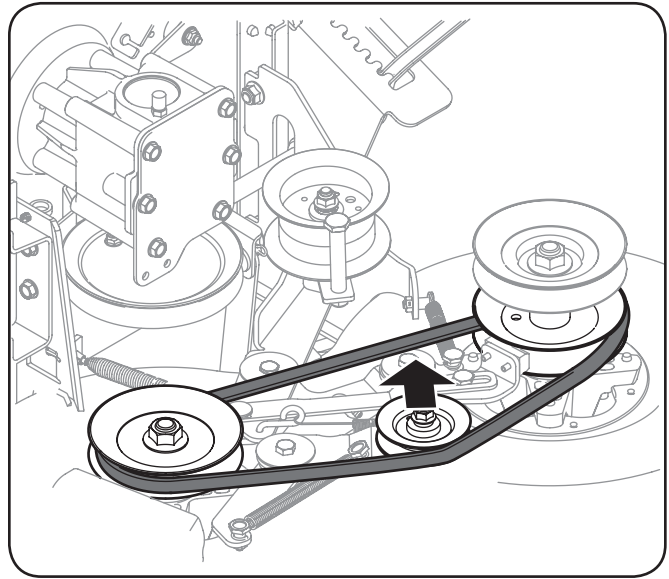

Figure 6-12
9. Relieve tension on the lower belt by moving the idler arm and tension pulley inward as shown in Figure 6-12.